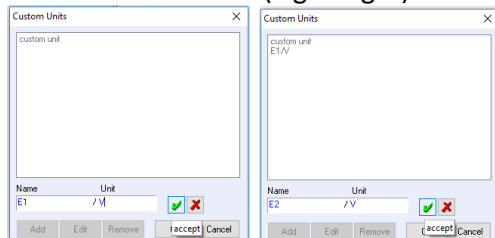

Figure 6: Addition of  $E_1$  and  $E_2$  voltage variables to the “External Devices” Tab.
- Click on the “Custom Units” button (Top right on Fig. 6). The window in Fig. 6 appears. Click on “Add” button.
- Type “ $E_1$ ” in the box “Name” and “V” in the box “Unit” (Fig. 6 left). Do the same thing for the variable “ $E_2$ ” (Fig. 6 right)